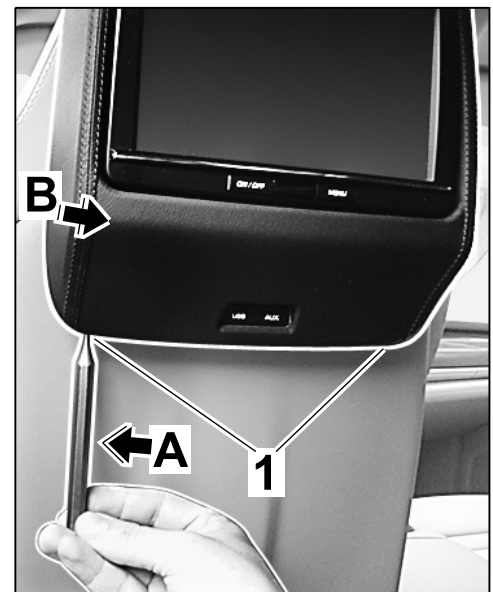

Figure 1
2.1.1 Insert a suitable tool (e.g. a small screwdriver or a drift punch with a 2-mm diameter) into the display unit ⇒ *Figure 1 -1-*.
2.1.2 Press the tool outwards ⇒ *Figure 1 -arrow A-* and at the same time, carefully move the display unit back and forward in direction of arrow ⇒ *Figure 1 -arrow B-* until the locking lugs at the left and right are released.